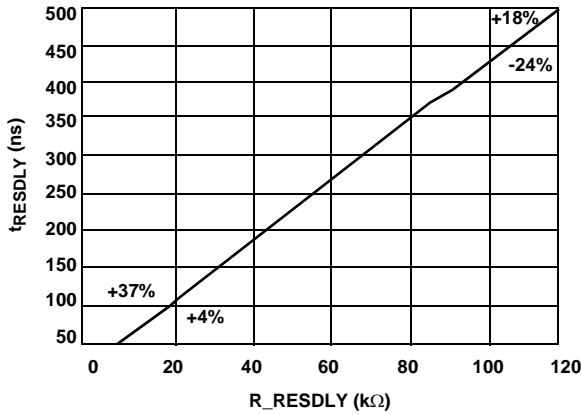

FIGURE 7. R_RESPLY vs. RESPLY
- Figure 7 illustrates the relationship of the value of the resistor (R_RESPLY) and the resonant delay (t_{RESPLY}). The percentages in the figure are the tolerances at the two end points of the curve.